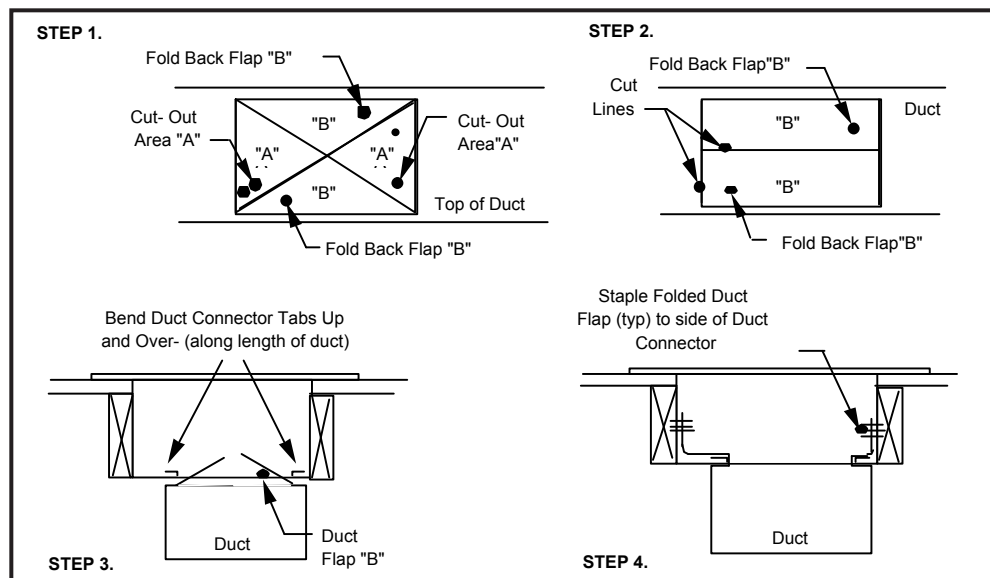

Figure 12. Alternate Installation
This procedure may also be used to install a furnace duct connector to narrow metal ductwork where insufficient clearance prevents bending of the duct connector tabs at the side(s) of the duct. See Figure 12, page 12.
2. Fold the duct flap “B” up (Step 3, Figure 12).
5. Fold/form the duct flap against the side of the duct connector and attach as shown, (See Step 4). Use three (3) staples (minimum) on each duct flap OR, if a 2X block/joist is not provided, use two (2) sheet metal screws (minimum) on each duct flap. An alternate attachment method is acceptable, as long as the plenum is securely attached.